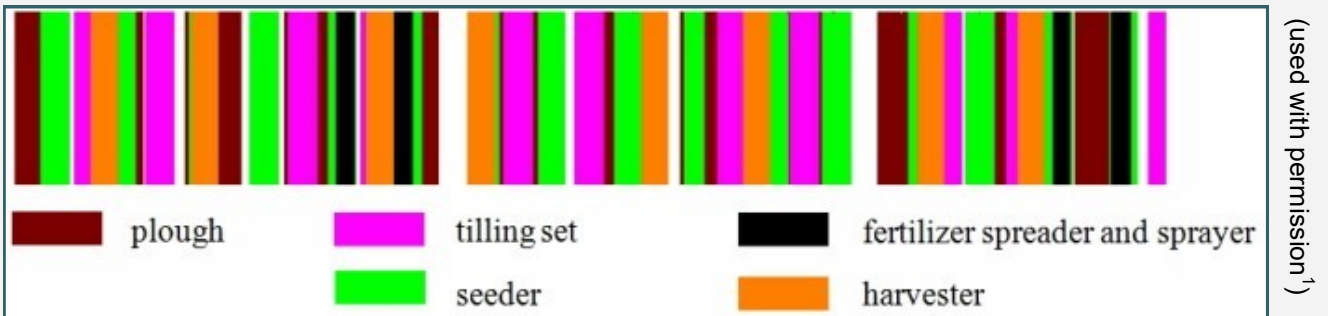

Figure 1: Typical traffic pattern using conventional farming practices of winter wheat cultivation¹
- Average *TP* retention capacity was **7.2 kg/ha/year**, with a reduction efficiency of **39%** (Fig. 1)
- Average *PP* retention capacity was **3.0 kg/ha/year**, with a reduction efficiency of **13%** (Fig. 1).
- The *SRP* retention capacity for the other seven wetlands is **5.0 kg/ha/year** with an average *SRP* reduction efficiency of **71 %** (Fig. 1).
Figure 1: Average seasonal **phosphorus reduction efficiency** (%) of eight wetlands for total phosphorus (*TP*), total dissolved phosphorus (*TDP*), soluble reactive phosphorus (*SRP*), and particulate phosphorus (*PP*).